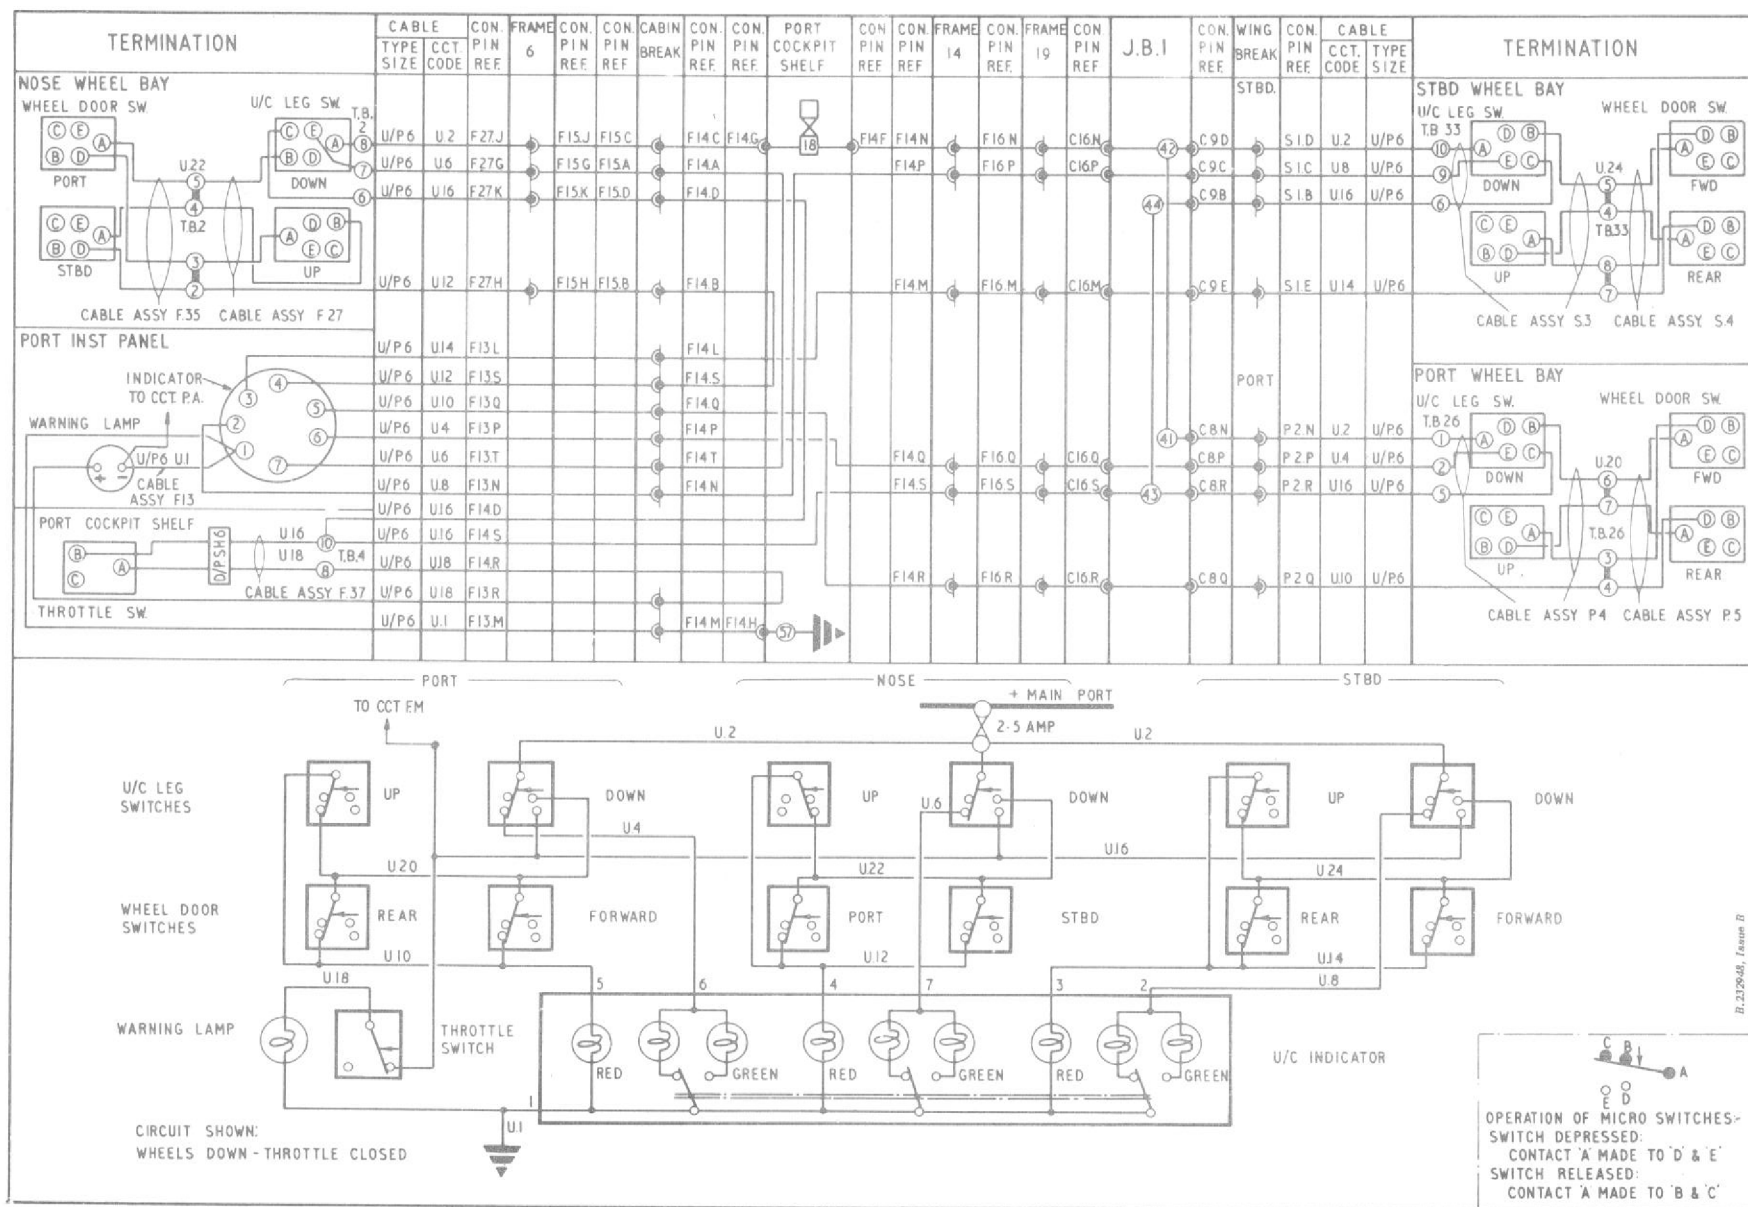

Fig. 1. Alighting gear indicator and warning lamp (routing and theoretical)
4. The circuit diagram on fig.1 illustrates the condition when the aircraft is standing